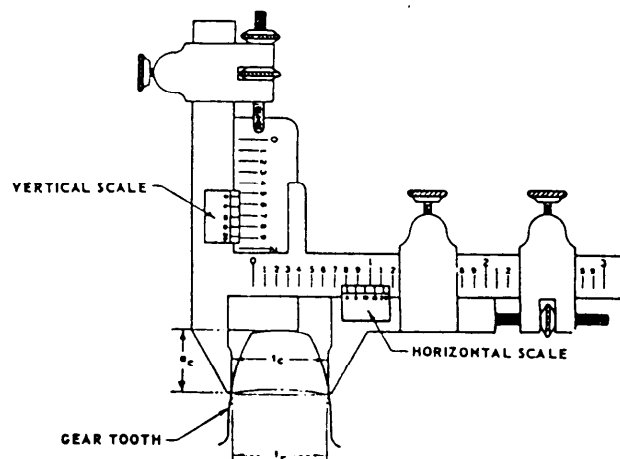

Figure 14-3.—Measuring gear teeth with a vernier caliper.
To check the dimensional accuracy of gear teeth, use a gear tooth vernier caliper (see fig. 14-3). The vertical scale is adjusted to the chordal addendum (a_c) and the horizontal scale is used to find the chordal thickness (t_c). Before you calculate the chordal addendum, you must determine the addendum (ADD) and circular thickness (C_t).
Now set the vertical scale of the gear tooth vernier caliper to 0.128 inch. Adjust the caliper so the jaws touch each side of the tooth as shown in figure 14-3. If the reading on the horizontal scale is 0.1962 inch, the tooth has correct dimensions; if the dimension is greater, the whole depth (WD) is too shallow; if the reading is less, the whole depth (WD) is too deep.